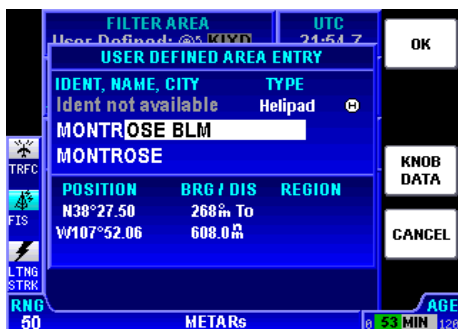

Figure 2-64
7. Turn the Rotary Knob one click clockwise. The first occurrence of names starting with Montrose in the database is now displayed as in Figure 2-64.